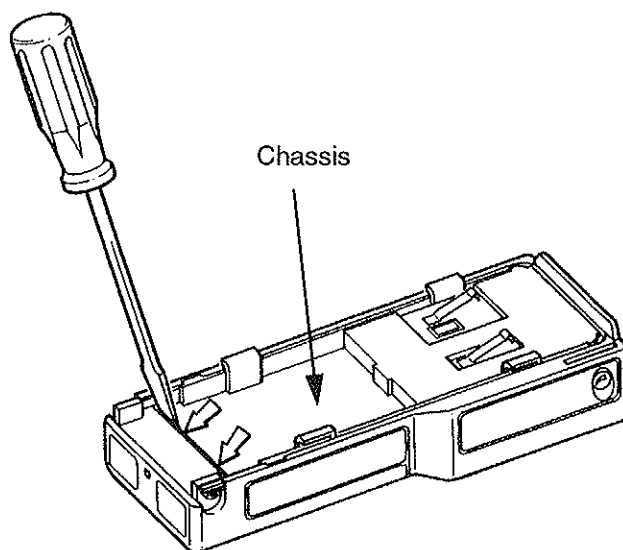

Figure 1-3. Remove Chassis
3. Carefully pry the chassis up on both sides, near the bottom, with a flat-blade screwdriver (Figure 1-3).